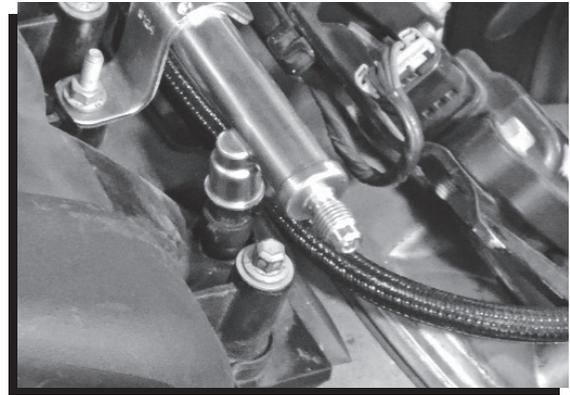

Figure 2 Schrader Valve Location.
1. Locate the Schrader valve at the front of the fuel rail (Figure 2). Wrap the valve and surrounding area with a towel and press the valve down to release any fuel pressure. Once the fuel pressure is released, disconnect the fuel line from the fuel rail with the release tool.